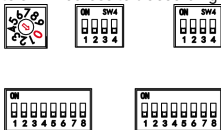

Figure 1
(1) Adjust the BCU dip switch to SW1-Address to 0 according to Figure 1.